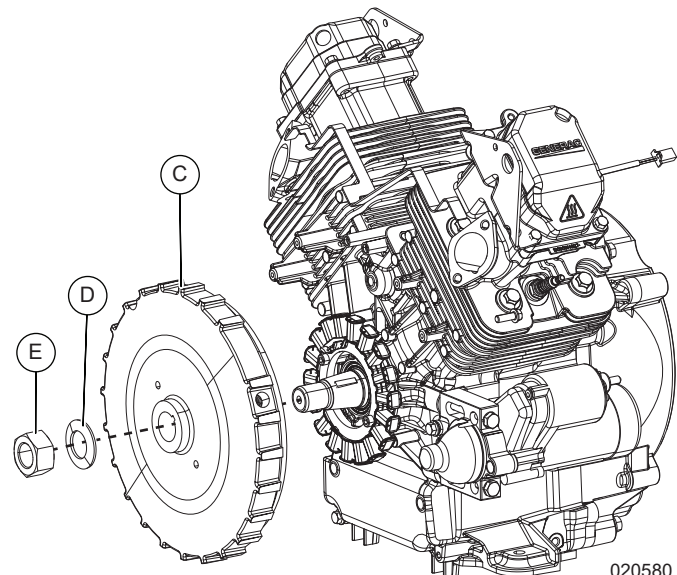

Figure 7-7. Install Flywheel, Washer, and Nut
- See Figure 7-7. Align keyway and install flywheel (C) on crankshaft.